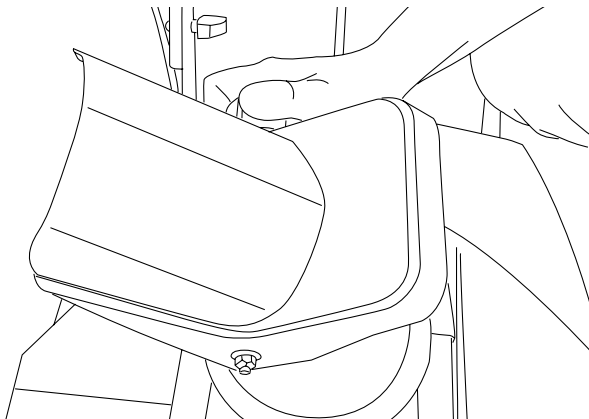

Figure 7
3. Raise or lower the chute deflector to the desired height of the snow stream and tighten the knobs (Fig. 7).